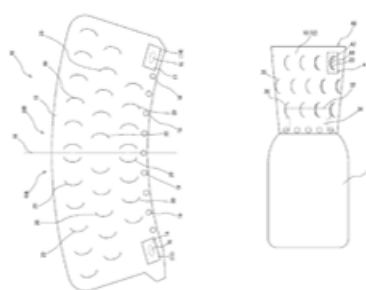

Fig. 2: Wrapping paper, unrolled (left) and rolled on a bottle (right)
Figure 2 illustrates a cloud seeding system using hoses.
Paper rolls, paper wraps, wrapping papers, etc. for guiding the carpophores (illustration in Fig.2).
Figure 2 illustrates a plant arrangement for improving crop yields with a set distance (36) between corn rows (8).